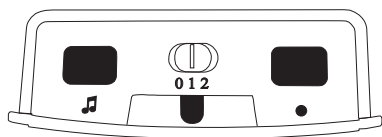

Figure 6: »signalux« top side
Using the signal mode slide switch (in fig. 6 “0 1 2”) you can select the signal mode.
- d) Press the melody setting button  (fig. 6) until you have found the desired melody (you can choose from 15 melodies).
- Keep the key ● (fig. 6) pressed for some time. The symbols flash in sequence. Let go of the key as soon as you see the desired symbol.
- Now press key ● and the melody setting button 🎵 (fig. 6), until all symbols briefly flash at the same time.